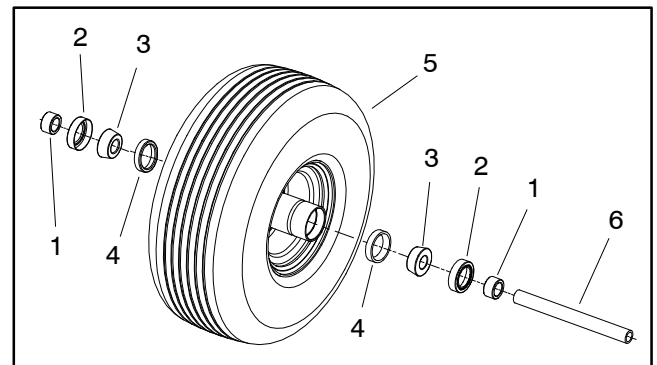

Figure 15
9. If necessary, remove spacers, seals and bearings from castor wheel using Figure 15 as a guide. Inspect and replace all wheel components that show signs of wear or damage.
1. If components were removed from castor wheel, assemble castor wheel (Fig. 15):